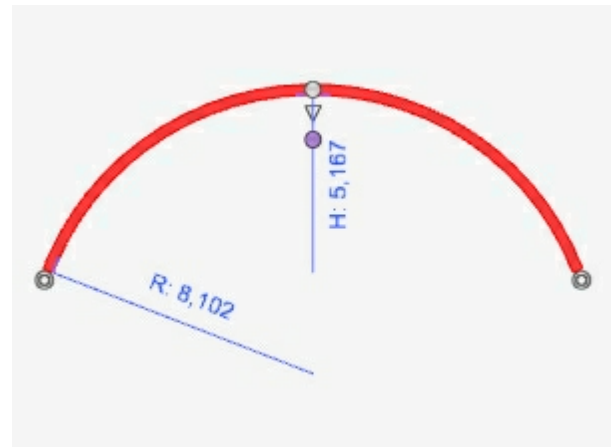

Figure 1
Figure 1 shows a curved wall including height (H) and radius (R).